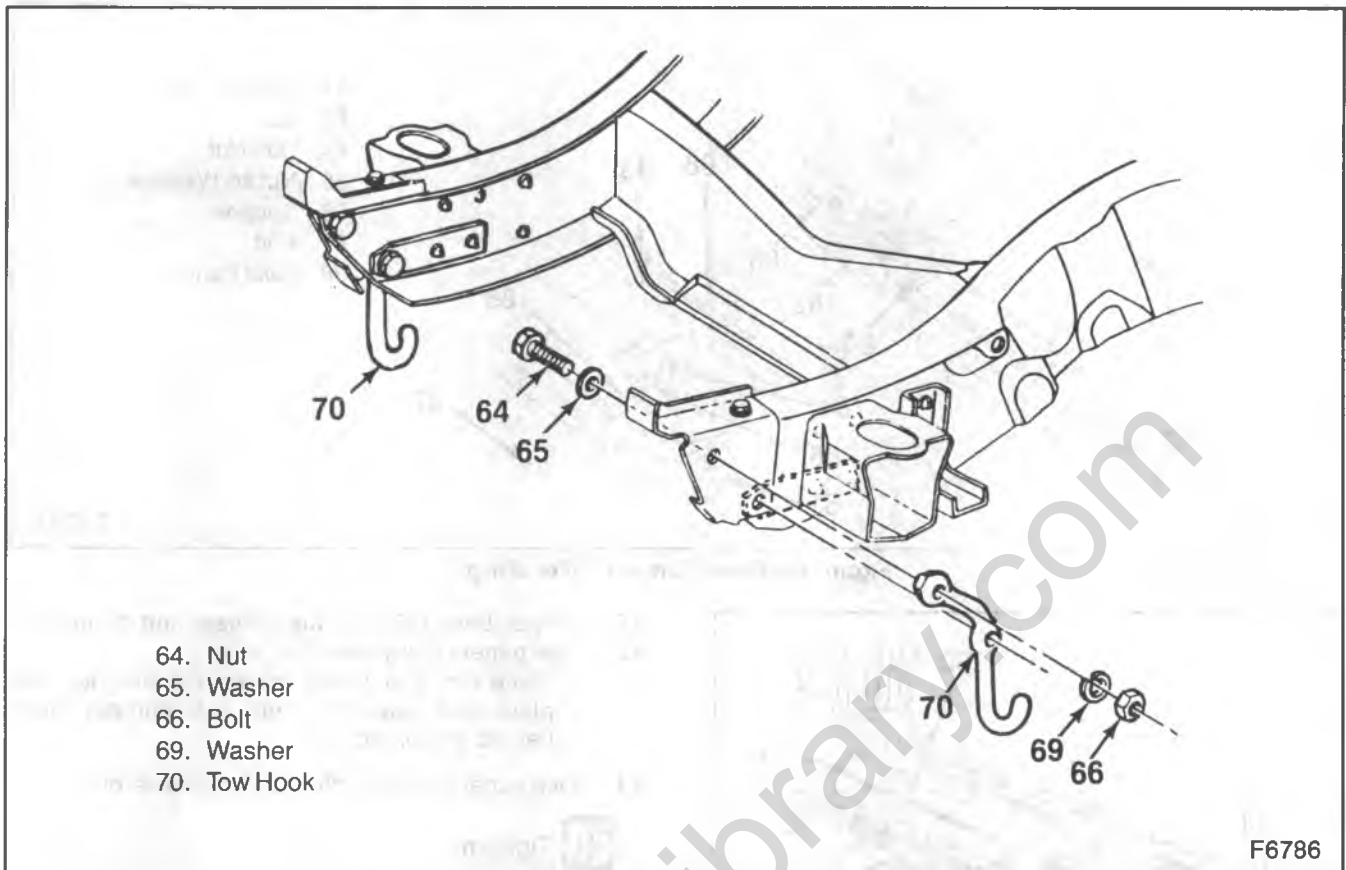

Figure 7—R/V Tow Hooks
7. Brace bolts and washers from the inside of the frame rail (figure 7).
8. Braces (54)
10. Tow hooks (70) (where used).
11. Brackets (55).